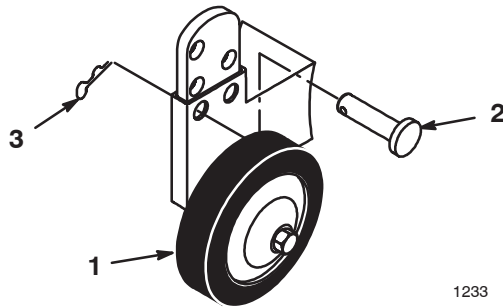

Figure 7
- A. Remove the hairpin cotter and pin to change the hole location (Fig. 7).
- B. Select a hole position so that the gage wheel is 3/8 inch (10 mm) off of the ground for the height-of-cut to be used (Fig. 7).